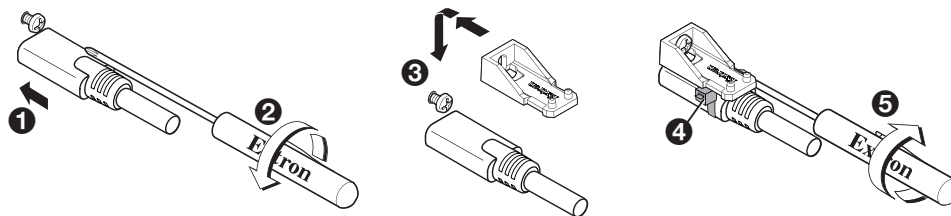

Figure 9. Securing a USB-C Connector to a Port, Using a Lockit Plus Lacing Bracket.
Figure 9 shows how to secure a USB-C connector to a device using the Lockit Plus Lacing Bracket. Use the same procedure to secure a HDMI connector to a device. Follow these instructions to secure the HDMI and USB-C connectors to the unit with the LockIt Plus lacing brackets provided:
1. **Plug in the cable** (see figure 9, ①) – Connect the HDMI or USB-C cable to the port.
2. **Loosen the screw** (②) – Slightly loosen the mounting screw (do not remove it).
3. **Attach the bracket** – Place the bracket over the screw (③) and tighten it (⑤). Do not overtighten the connector mounting screw.